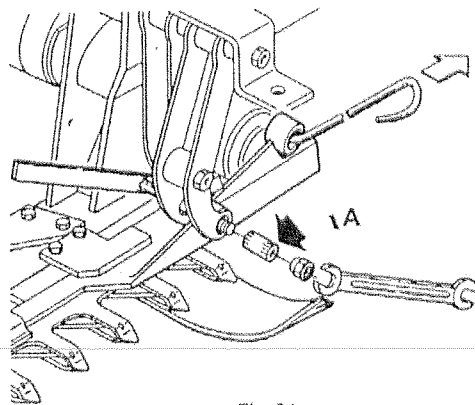

Fig. 34
*In order to extract the cutting blades, release and then remove the screw and bush (A, Fig. 34 and 35), Attach the blade head and extract the blade. Lubricate the cutters with very viscous oil during the assembly phase. Grese.*